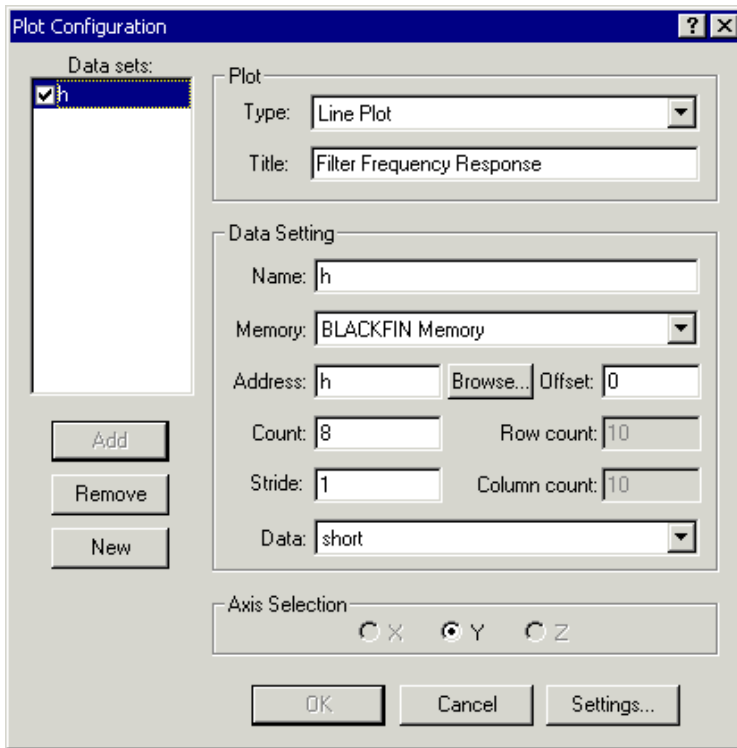

Figure 2-34. Filter Frequency Response Data Set
2. Set up the Filter Frequency Response plot by completing the **Plot** and **Data Setting** group boxes as shown in Figure 2-34 on page 2-45.